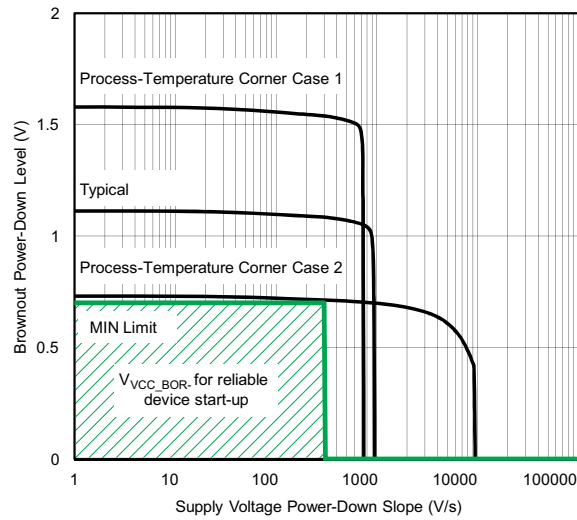

Figure 4-6. Brownout Power-Down Level vs Supply Voltage Down Slope
- (1) In case of a supply voltage brownout, the device supply voltages must ramp down to the specified brownout power-down level (V_{VCC_BOR-}) before the voltage is ramped up again to ensure a reliable device start-up and performance according to the data sheet including the correct operation of the on-chip SVS module.
- (2) Fast supply voltage changes can trigger a BOR reset even within the recommended supply voltage range. To avoid unwanted BOR resets, the supply voltage must change by less than 0.05 V per microsecond ($\pm 0.05 \text{ V}/\mu\text{s}$). Following the data sheet recommendation for capacitor C_{DVCC} should limit the slopes accordingly.
- (3) The brownout levels are measured with a slowly changing supply. With faster slopes, the MIN level required to reset the device properly can decrease to 0 V. Use the graph in Figure 4-6 to estimate the V_{VCC_BOR-} level based on the down slope of the supply voltage. After removing V_{CC} , the down slope can be estimated based on the current consumption and the capacitance on DVCC: $dV/dt = I/C$ where $dV/dt = \text{slope}$, $I = \text{current}$, $C = \text{capacitance}$.
- (4) The brownout levels are measured with a slowly changing supply.